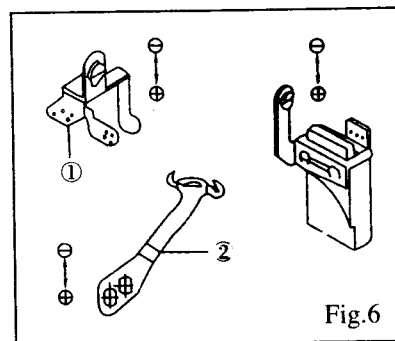

Fig.6
2. Needle Thread Control Fig.6